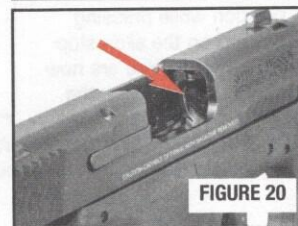

FIGURE 20
- Look into the chamber and down through the magazine well. Verify that no ammunition remains in the pistol (FIGURE 20).